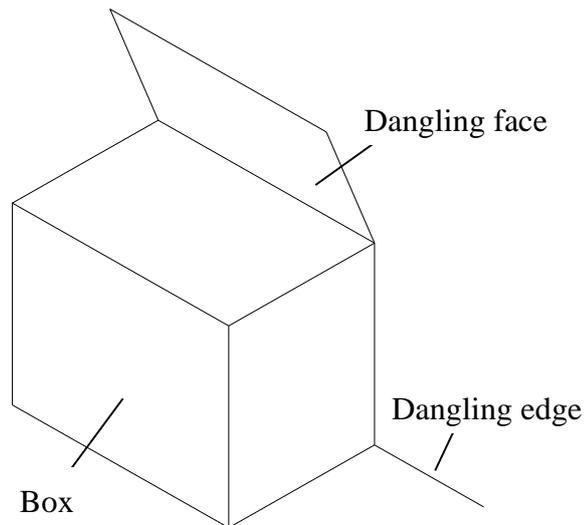

Figure 2. Example of isolated boundaries
- (1) **Rigidity.** This implies that the shape of a solid model is invariant and does not depend on the model location or orientation in space.
- (2) **Homogeneous three-dimensionality.** Solid boundaries must be in contact with the interior. No isolated or dangling boundaries (see Figure2) should be permitted.
- (3) **Finiteness and finite describability.** The former property means that the size of the solid is not infinite while the latter ensures that a limited amount of information can describe the solid. The latter property is needed in order to be able to store solid models into computers whose storage space is always limited. It should be noted that the former property does not include the latter and vice versa. For example, a cylinder that may have a finite radius and length may be described by an infinite number of planar faces.
- (4) **Closure under rigid motion and regularized Boolean operations.** This property ensures that manipulation of solids by moving them in space or changing them via Boolean operations must produce other valid solids.
- (5) **Boundary determinism.** The boundary of a solid must contain the solid and hence must determine distinctively the interior of the solid.